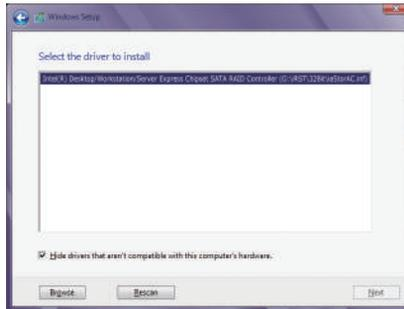

Figure 1
When a screen as shown in Figure 1 appears, select **Intel(R) Desktop/Workstation/Server Express Chipset SATA RAID Controller (I: \IRST\32Bit\sd10044.inf)** and click **Next** to load the driver and continue the OS installation